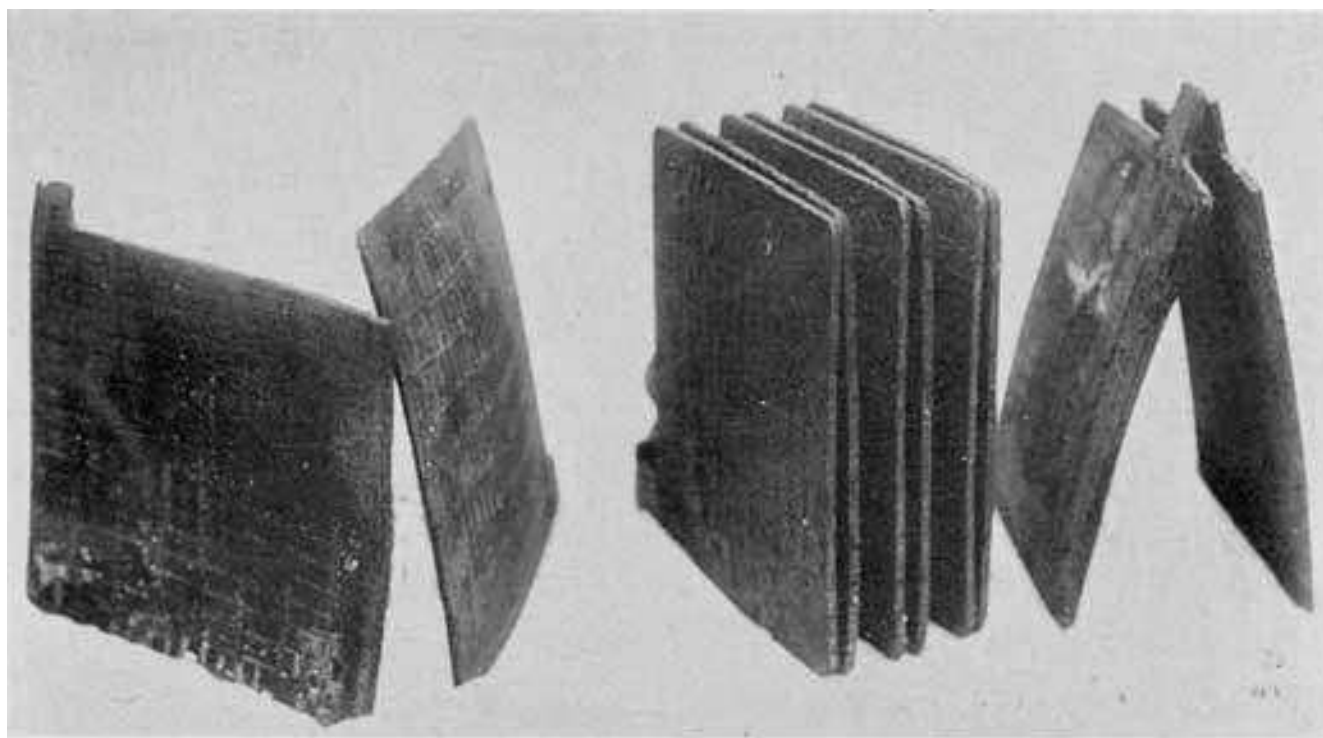

Fig. 207. Buckled Plates
**3. If the positive plates are badly distorted from buckling**, as in Figs. 207 and 208 discard them, for they will cut through new separators, if put into commission again, ill from two to six months.